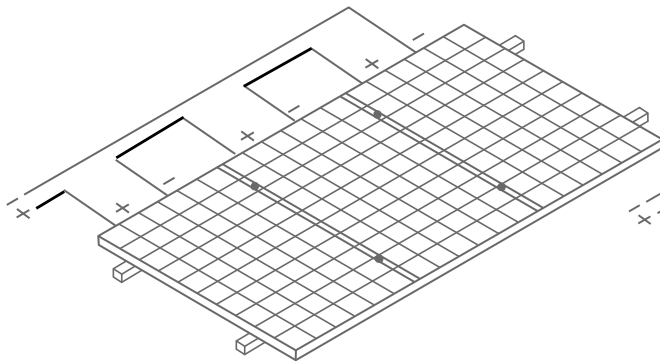

Figure 4 Connection in Series
- It is not allowed to use the Modules in different models in the same solar photovoltaic system. When the Modules are connected in series, the voltage of every string shall not be higher than the maximum voltage of the system (as shown in Figure 4). Reference equation of the maximum number of the Modules in serial connection: maximum system voltage of the module/ (1.3* open-circuit voltage).